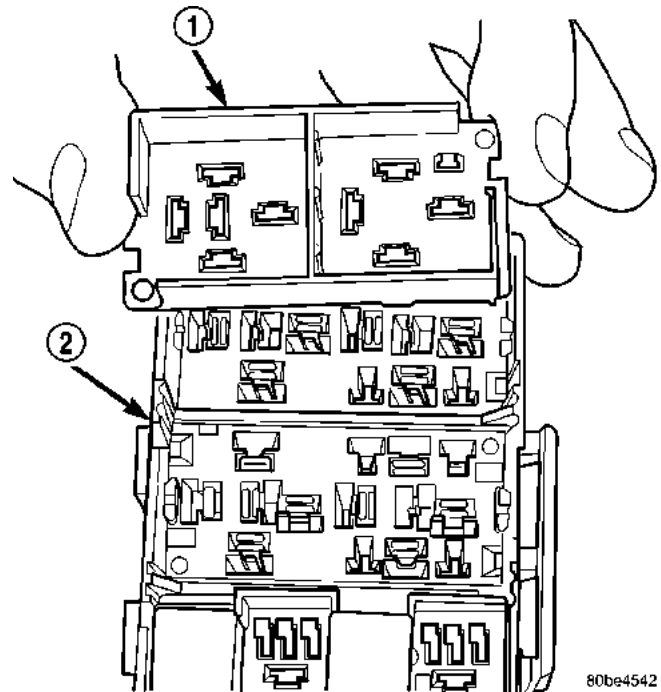

Fig. 12 PDC Relay Wedge Remove/Install - Typical
- (1) Remove the PDC housing lower cover.
- (2) Remove each of the relays from the PDC relay wedge to be removed.
- (3) From the bottom of the PDC housing, use a small screwdriver or a terminal pick tool (Special Tool Kit 6680) to release the two latches (yellow) that secure the relay wedge to the PDC relay cassette.
- (4) From the top of the PDC housing, remove the relay wedge from the PDC relay cassette (Fig. 12).